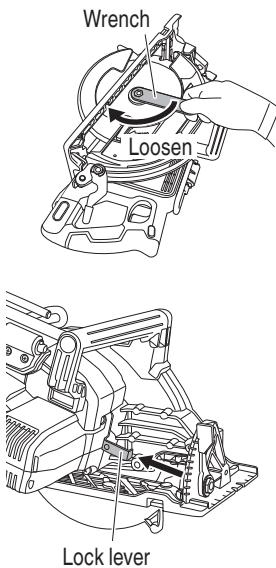

Fig. 15
- Set the cutting volume at maximum, and place the Circular Saw as shown in Fig. 15.